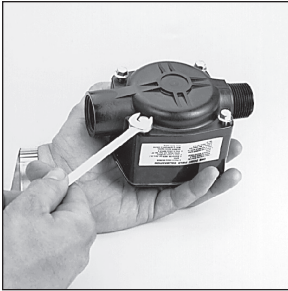

Figure 2
1. Loosen the screws on the back of the meter about 1/4 inch (0.6 cm). (Figure 2)